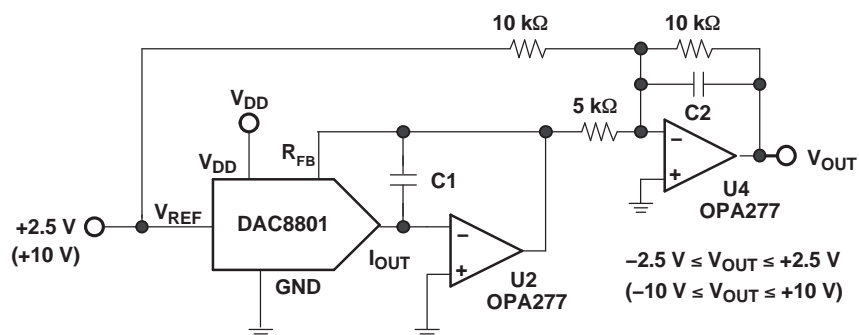

Figure 22. Bipolar Output Circuit
Some applications require full 4-quadrant multiplying capabilities or bipolar output swing. As shown in Figure 22, external op amp U4 is added as a summing amp and has a gain of 2X that widens the output span to 5 V. A 4-quadrant multiplying circuit is implemented by using a 2.5-V offset of the reference voltage to bias U4. According to the circuit transfer equation given in Equation 4, input data (D) from code 0 to full scale produces output voltages of $V_{OUT} = -2.5 \text{ V}$ to $V_{OUT} = 2.5 \text{ V}$.